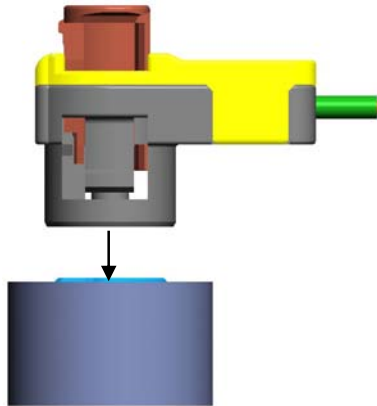

Figure 3
2. Insert the connector straight along the mating axis until it is completely locked. See Figure 3.